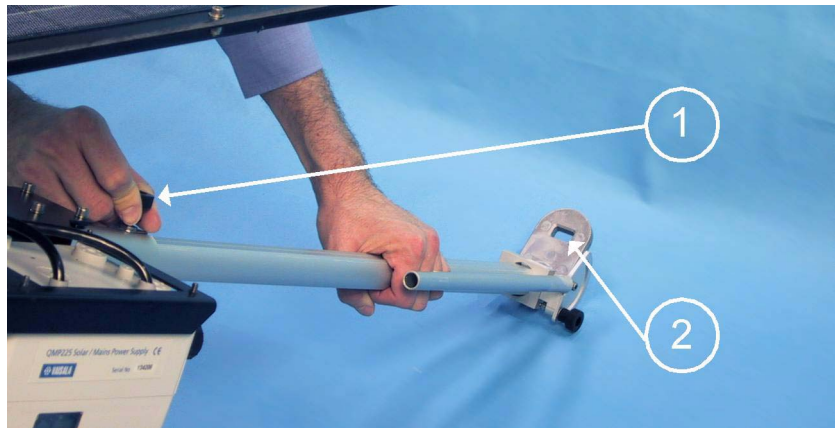

Figure 89 **Adjusting the Leg**
4. To adjust the length of the legs, loosen the hand screw (number 1 in Figure 89 on page 100) at the lower end of the leg. Extend the leg and lock by tightening the hand screw. After you have aligned the station, insert a peg through the hole (2) to the ground to secure